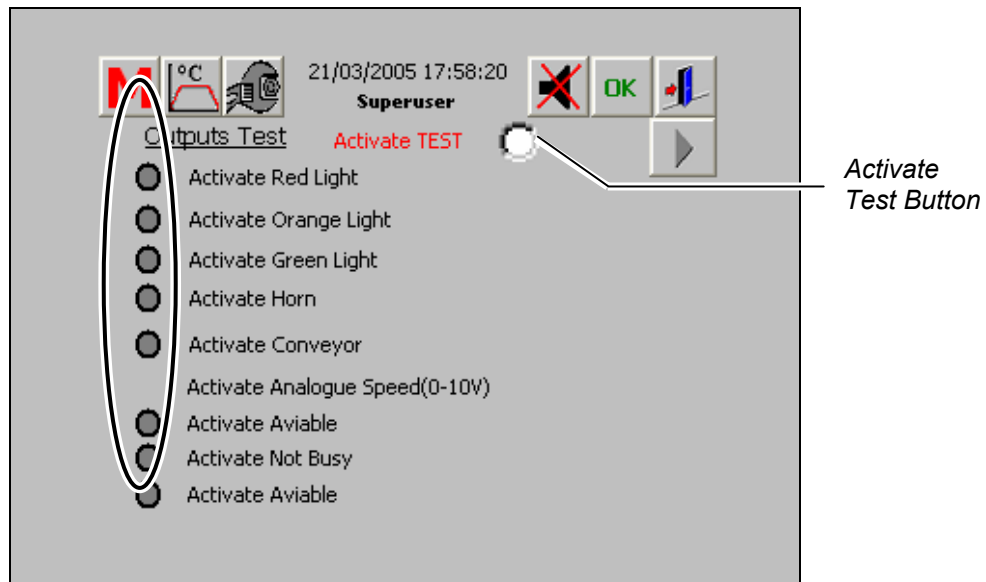
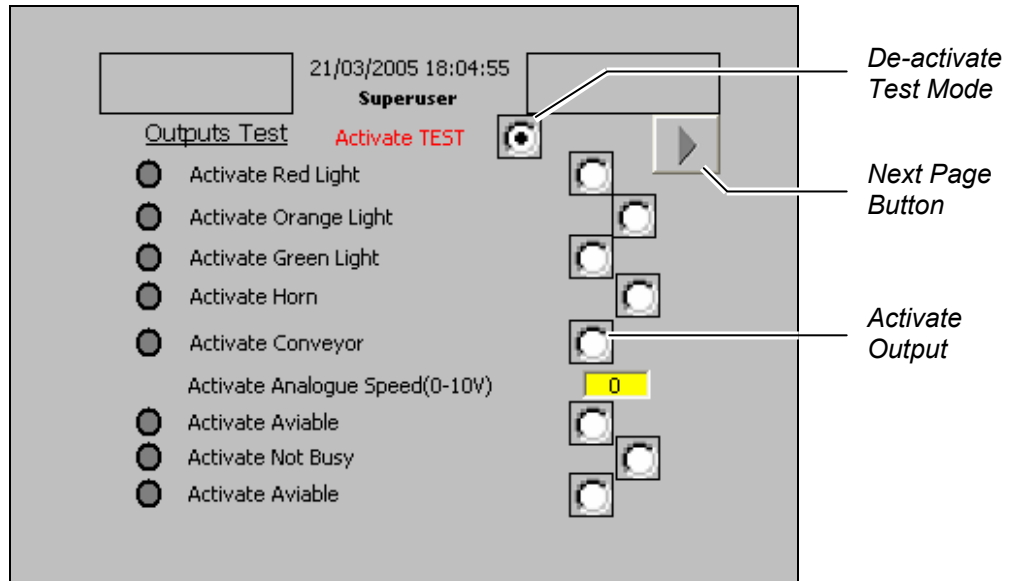

Figure 6-25 Outputs - Activate Test Screen
Figure 6-27 Outputs - Activate Test Screen
2. The Outputs - Activate Test screen appears (Figure 6-25). Click on the **Activate Test** button to access the Outputs - Activate Test screen (Figure 6-27).
4. The Outputs - Activate Test screen appears again with selections available (Figure 6-27).